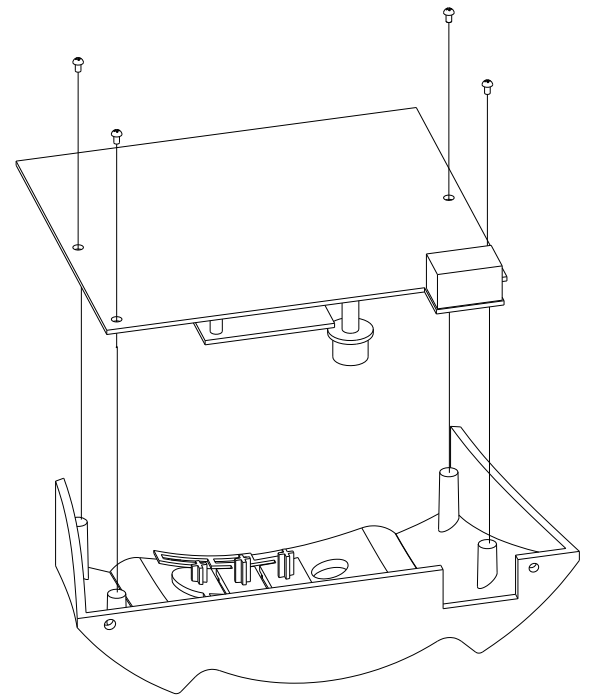

FIG. 5.
9. Remove 4 screws attaching PCB to cover and lift PCB from cover assembly. FIG. 5. Gently pull antenna wire through hole in cover.